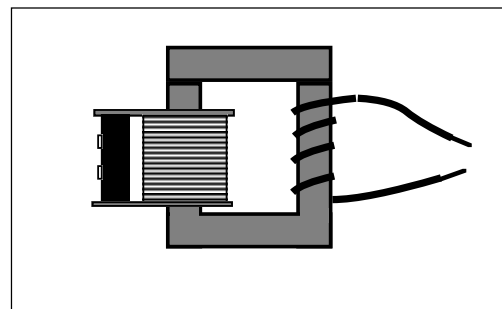

Figure 2
6. Replace the secondary coil with a relatively large diameter wire (18-20 gauge) wound around the core 5-6 times. See Figure 2. Again set the input voltage to the primary at 6.0 vac. Connect the ammeter to this new secondary, measuring the current when the resistance is only that of the ammeter. With the ammeter disconnected, measure the output voltage.